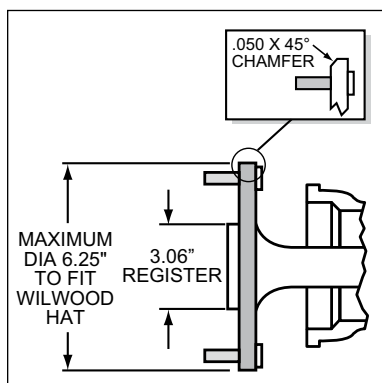

Figure 5. Axle Flange Maximum Dimension
- Axle center register diameter is 3.06", Figure 5. Rotors can either be centered on the axle register, i.e. *register-centric* or centered on the wheel studs, i.e. *stud-centric*. Due to variations in wheel stud final diameters, *register-centric* centering can be a more accurate method of centering the rotor to the axle. Wilwood offers various diameter adapters for purchase, see Table 1.
- Maximum axle flange diameter must be no larger than 6.25" w/.050" x 45° chamfer (Figure 5).